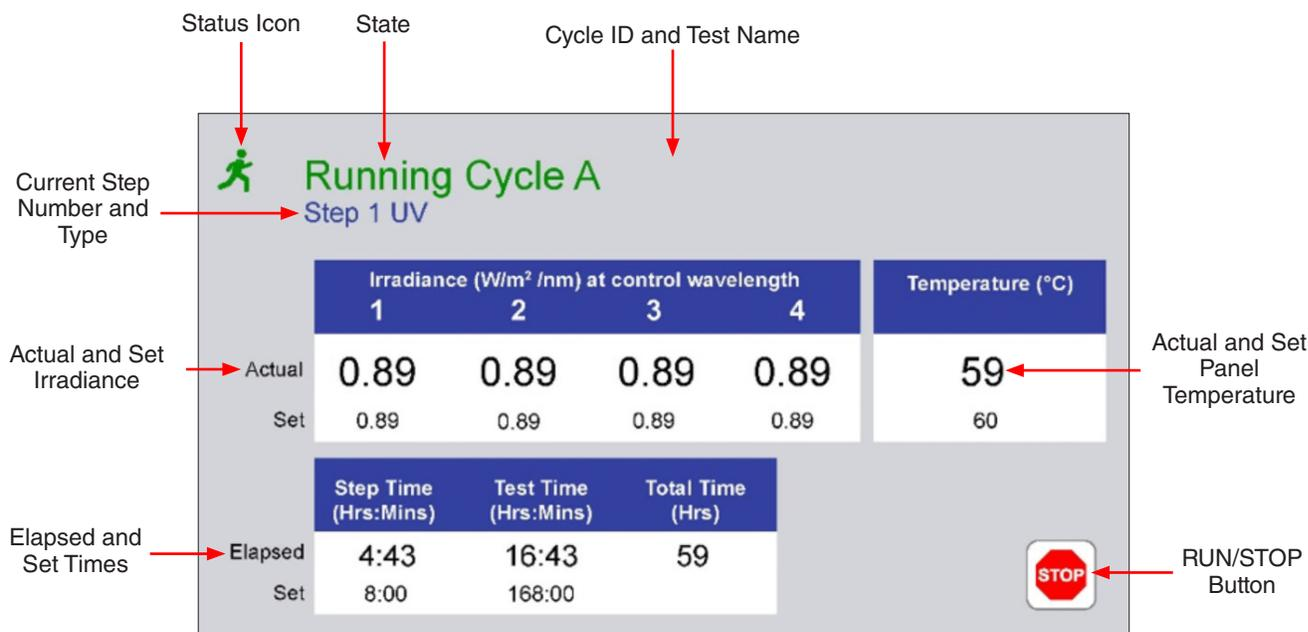

Figure 11.3a: Status screen components. Display for models with SOLAR EYE irradiance control shown
- The Status Screen (Figure 11.3a) displays: